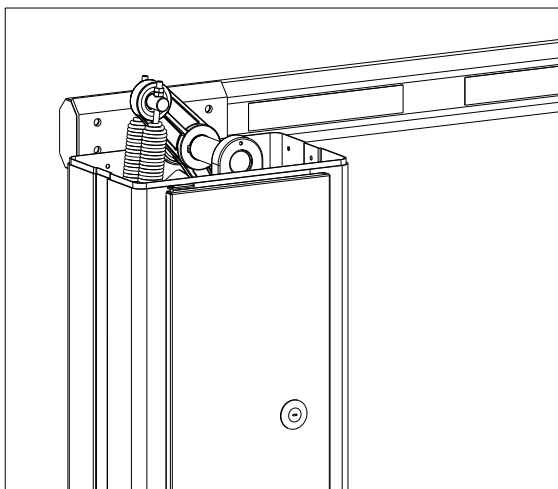

fig10
D.1 Boom need to be shorter (fig9) (fig10) (fig11)
remove the spring quantity according to Appendix spring list, then adjust balance according to fig10 and fig11